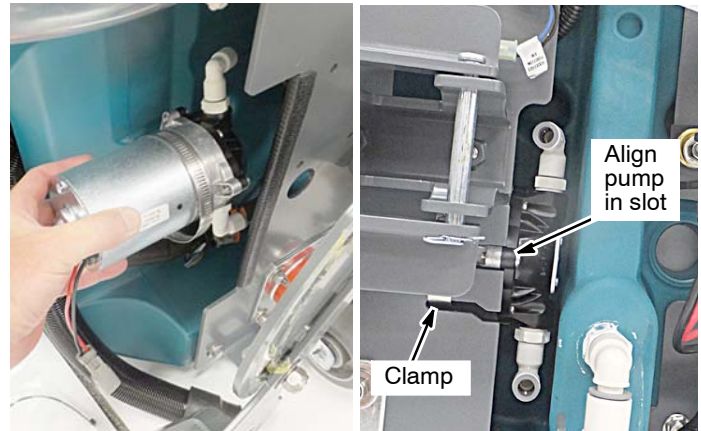

Fig. 27
5. Insert the pump assembly from the rear of machine and mount it to the machine frame tab with hose clamp as shown. Rotate the elbow fittings as shown (Figure 27).